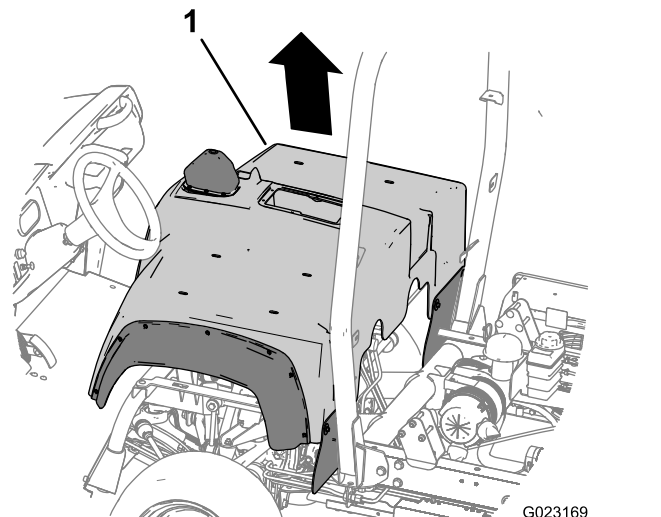

Figure 12
- 3. Lift the seat shroud up and remove it from the machine (Figure 12).